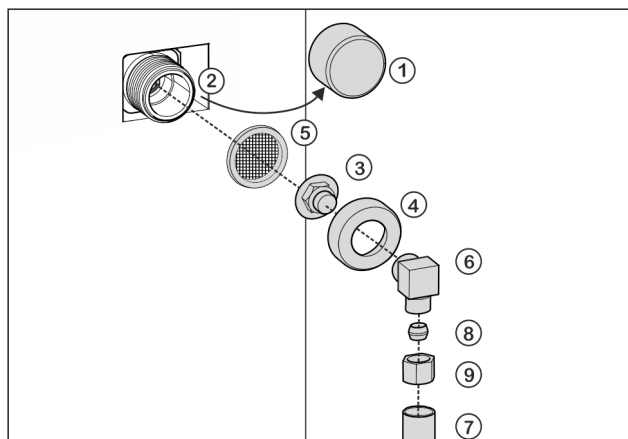

Fig. 50
- Remove cap Fig. 50 (1) from solenoid valve Fig. 50 (2).
- Insert coupler Fig. 50 (3) into union nut Fig. 50 (4).
Improper installation of water filter Fig. 50 (5)!
- Insert water filter Fig. 50 (5) with the recess pointing down towards coupler Fig. 50 (3).
- Attach union nut Fig. 50 (4) to solenoid valve Fig. 50 (2) and tighten.
- Screw on angle piece Fig. 50 (6).
- Connect water pipe Fig. 50 (7) (e.g. copper) to angle piece Fig. 50 (6) using clamp ring Fig. 50 (8) and nut Fig. 50 (9).
- Attach water pipe Fig. 50 (7) to the housing if possible, using the clip bracket.
- Put angle piece Fig. 50 (6) to one side.
- Connect water pipe Fig. 50 (7) (e.g. copper) to coupler Fig. 50 (3) using clamp ring Fig. 50 (8) and nut Fig. 50 (9).